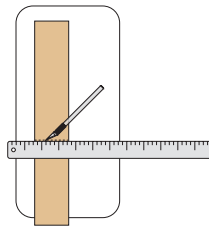
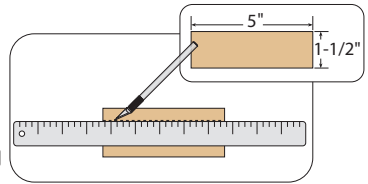

Figure 4
Figure 5
4. Take the third piece of wood and cut a 5" piece off one end (Figure 4). Then, use the knife and straightedge to cut 1/2" off the side of the 5" piece so its dimensions are 1-1/2" x 5" (Figure 5).